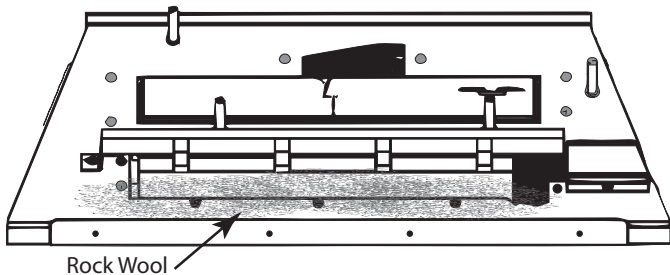

Figure 1 - Installing Rock Wool
1. Before installing logs, place rock wool in front of the grate. Loosely apply nickel size pieces to allow the gas to flow through for proper burn and not to be obstructed. Failure to do so would cause a higher level of CARBON MONOXIDE. See Figure 1.